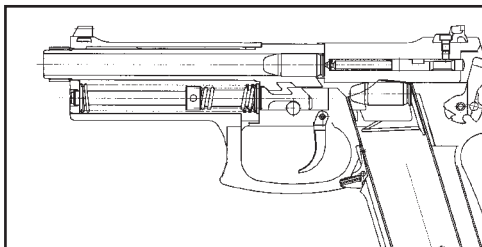

Figure 5
A. **Firing** - (see Figure 5) Pulling the trigger rearward pulls the trigger bar forward. The trigger bar pivots the sear actuator upward which disengages the firing pin block. At the same moment, the sear is pivoted out of engagement from the lower of the two shelves located on the hammer. The compressed hammer spring drives the hammer forward into the rear end of the firing pin. The firing pin strikes the primer of the chambered round. The propellant is ignited by the primer and propellant gases are created inside the cartridge case. The propellant gases drive the projectile down the polygonal bore which spins the projectile in a clockwise direction as a means to stabilize the projectile's flight.
H. **Locking** - (see Figure 5) - The slide presses the barrel forward. As it does, the opposing angled surfaces of the barrel locking block and recoil spring guide rod pivot the rear end of the barrel up into engagement with the ejection port in the slide. The slide is now fully forward and the new round is ready to be fired.